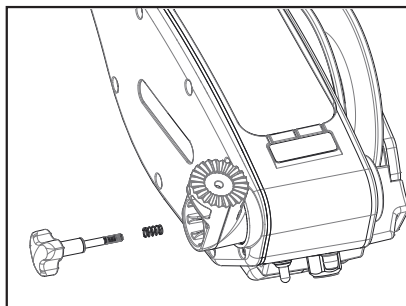

Figure 15
1. Attach the rod holder elbow to the downrigger on either side using the supplied spring and knob. (Figure 15)